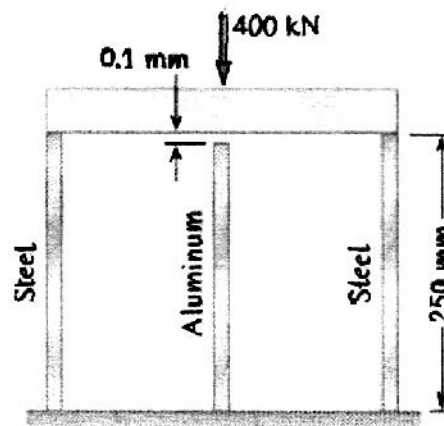

Fig. Q1b
- (b) Before the 400 kN load is applied, the rigid platform rests on two steel bars, each of cross-sectional area 1400 mm^2 , as shown in Fig. Q1b. The cross-sectional area of the aluminum bar is 2800 mm^2 . Compute the stress in the aluminum bar after the 400 kN load is applied. Use $E = 200 \text{ GPa}$ for steel and $E = 70 \text{ GPa}$ for aluminum. Neglect the weight of the platform.